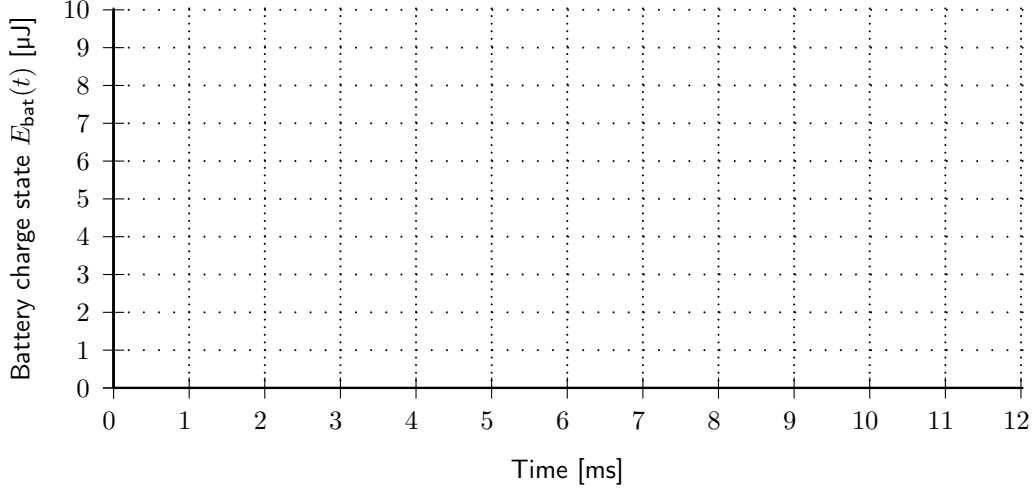

Figure 1: Evolution of the battery charge state $E_{\text{bat}}(t)$.
1. Assume an initial battery charge of $E_{\text{bat}}(t = 0) = 6 \mu\text{J}$, a constant input power $P_{\text{in}} = 0.5 \mu\text{J/ms}$, and a constant clock frequency of $f = 1 \text{ MHz}$ for task processing. Schedule the tasks τ_1, \dots, τ_3 according to the Earliest-Deadline-First (EDF) algorithm and draw the evolution of the battery energy level $E_{\text{bat}}(t)$ in Figure 1 for the time interval $[0 \text{ ms}, 12 \text{ ms}]$.